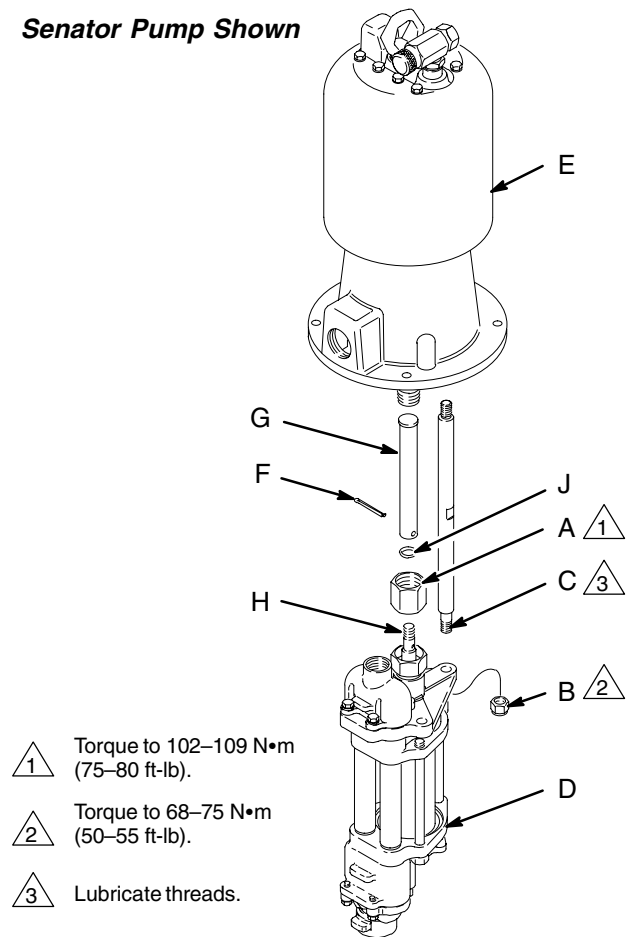
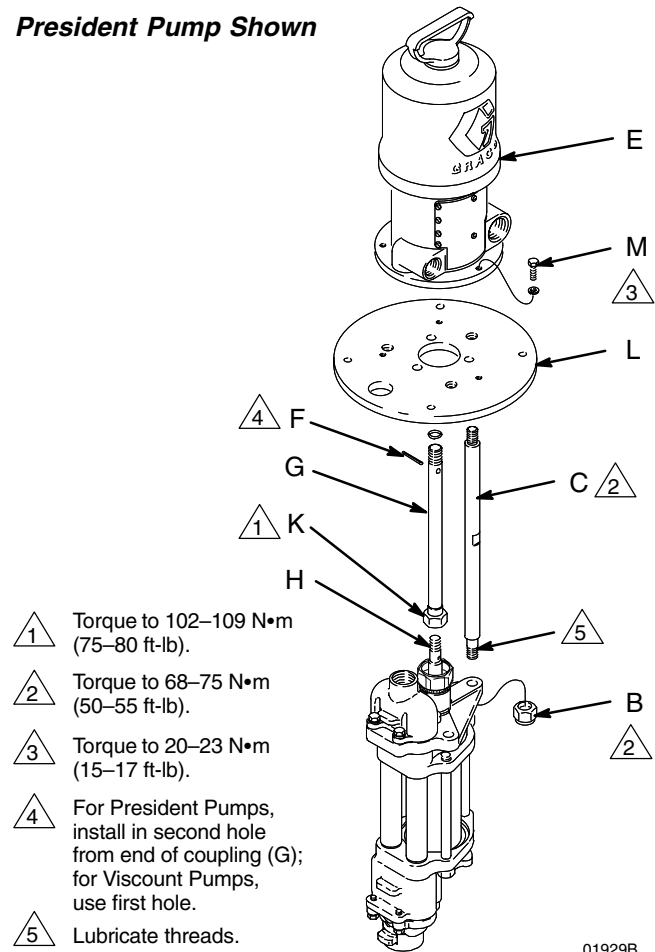

Fig. 7
Fig. 10
- **For Senator and Bulldog pumps (Fig. 7):** Unscrew the coupling nut (A). Unscrew the locknuts (B) from the tie rods (C). Pull the displacement pump (D) off the motor (E). Remove the pin (F) and screw the coupling (G) off the piston rod (H).
- **For Senator and Bulldog pumps (Fig. 7):** Make sure the coupling nut (A) and o-ring (J) are in place on the coupling (G). Screw the coupling onto the piston rod (H) and install the pin (F). Orient the displacement pump (D) to the motor (E) as shown. Position the displacement pump (D) on the tie rods (C). Lubricate the threads of the tie rods. Screw the locknuts (B) onto the tie rods loosely. Screw the coupling nut (A) onto the motor shaft and torque to 102–109 N•m (75–80 ft-lb). Torque the tie rod locknuts to 68–75 N•m (50–55 ft-lb).
1. Loosen, but do not remove, the screws (M) holding the adapter plate (L) to the motor (E). See Fig. 10.
2. Screw the tie rods (C) into the adapter plate (L) and torque to 68–75 N•m (50–55 ft-lb).
4. Remove the cotter pin (F). See Fig. 7 for Senator and Bulldog Pumps, and Fig. 10 for President and Viscount Pumps.
- *Senator and Bulldog Pumps:* See Fig. 7. Unscrew the coupling nut (A) from the motor shaft. Unscrew the coupling (G) from the piston rod (H). Set the coupling and coupling nut aside.
12. *Stainless Steel Pumps Only:* Install the o-ring (39†) on the throat cartridge (38), then screw the throat cartridge into the upper pump housing (1). Torque the throat cartridge to 135 N•m (100 ft-lb).
13. Torque the packing nut (21) to 34–40 N•m (25–30 ft-lb).
- *Senator and Bulldog Pumps:* See Fig. 7. Make sure the coupling nut (A) and o-ring (J) are in place on the coupling (G). Screw the coupling onto the piston rod (H). Screw the coupling nut (A) onto the motor shaft and torque to 102–109 N•m (75–80 ft-lb).
- *President and Viscount Pumps:* See Fig. 10. Screw the coupling (G) into the motor shaft until the pin holes align. Screw the coupling nut (K) onto the piston rod (H) and torque to 102–109 N•m (75–80 ft-lb).
15. Reinstall the pin (F). If necessary, reconnect the air or hydraulic supply and move the pump to the middle of its stroke. Install the pin (F) in the **second hole** from the end of the coupling for President pumps, and in the **first hole** from the end of the coupling for Viscount pumps.